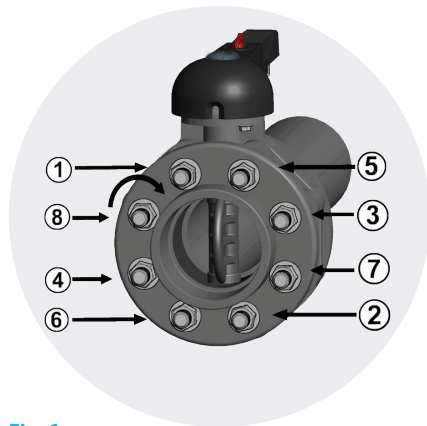

Fig. 1
7. once the cooling time is up, proceed with tightening the bolts in a "cross-wise" order (fig.1);